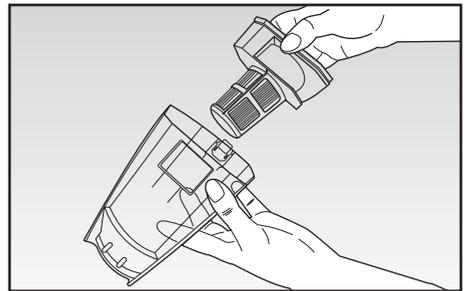

Fig. 13
- Remove the filter (D) outwards (Fig. 13) and the related support (E) to clean them.